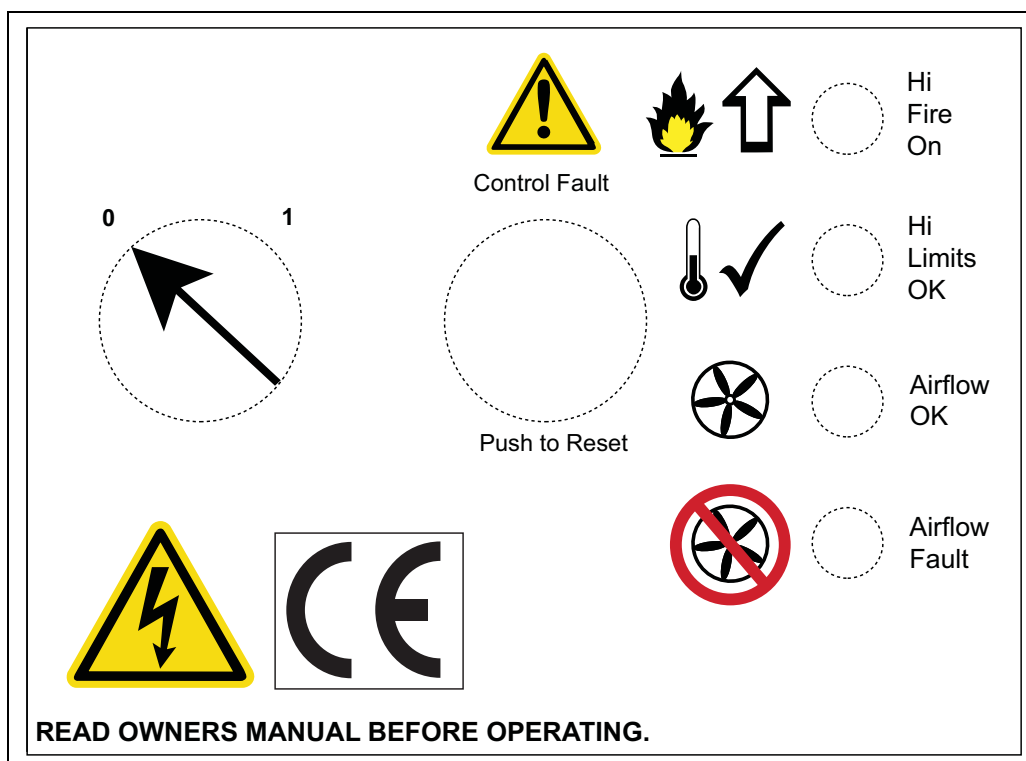

Figure 5R Burner Off Control Status
8. Shut down burner. (See Figure 5R.)